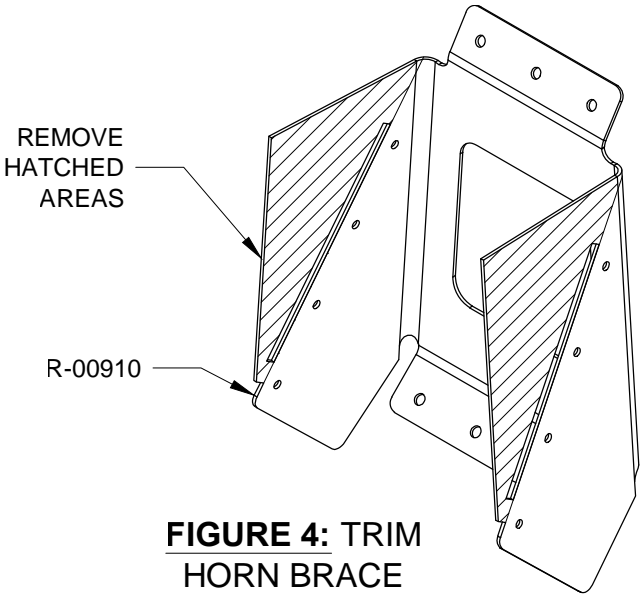

FIGURE 4: TRIM
Step 4: Remove hatched areas shown in Figure 4 from R-00910 Horn Brace. Deburr.